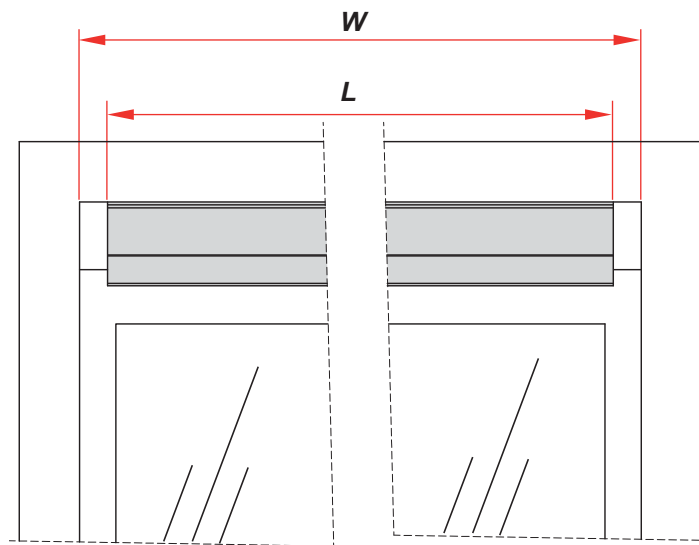

Figure 4: Cut the cover (shown in grey) to a length L which is 0.51" to 0.59" (13-15 mm) shorter than W .
Cut the cover to a length (L) which is **0.51" to 0.59"** (13 to 15 mm) shorter than the inside width (W) of the sliding door frame (see Figure 4).